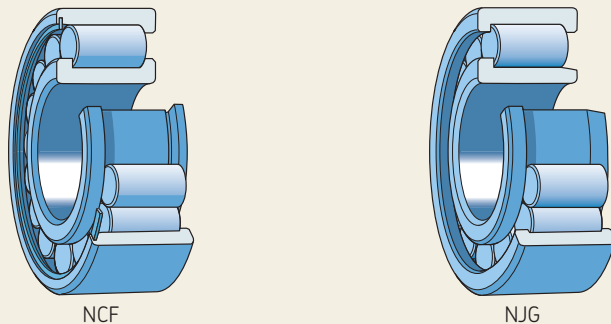

Fig. 21
- Therefore, the outer ring with the roller complement can be separated from the inner ring without having to take special precautions to prevent the rollers from falling out (fig. 21). This simplifies mounting and dismounting.